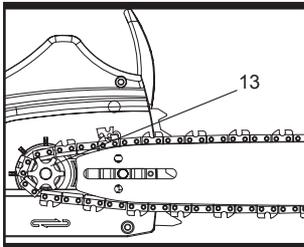

Fig. 8
Fit the bar/chain assembly up to the locking pin (11) and tighten chain tension screw (12) for ensure fully engaged on the drive sprocket (13). (see Fig. 8 & 9)